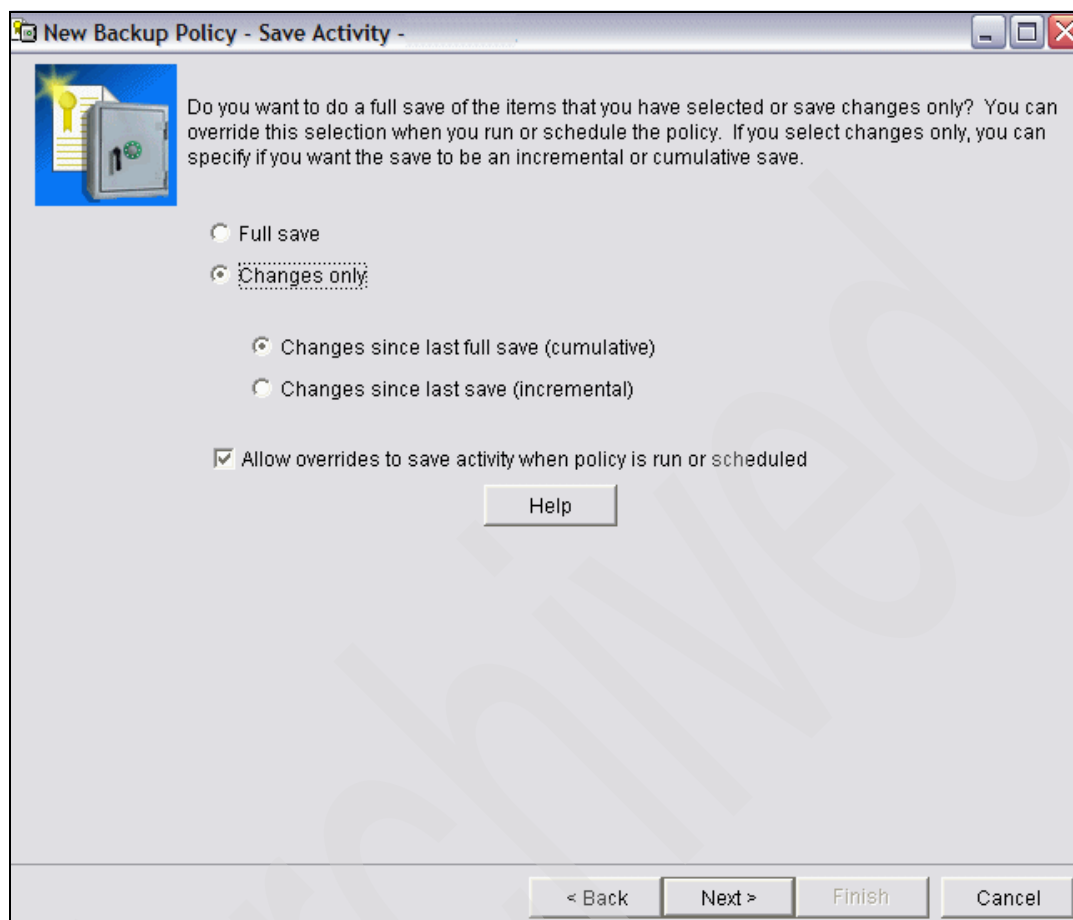

Figure 7-22 Save activity
1. In the window shown in Figure 7-22 on page 354, select **Changes only**, **Changes since last full save (cumulative)**, and **Allow overrides at run time** (this option allows you to make changes to whatever is saved without having to change the backup policy), and then click **Next**.